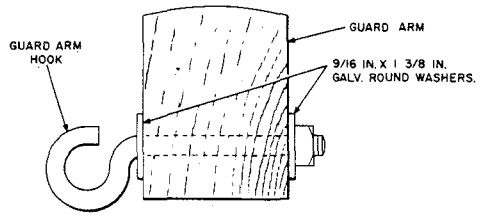

Fig. 7—Guard Arm Hook Installed
- 3.07** Guard arm hooks are used to attach wires to guard arms and cross arms, other than the DE-type, when more than two drop wires must be attached to the same hook. On a guard arm, install the hooks in the holes provided at the ends of the guard arm (Fig. 7).